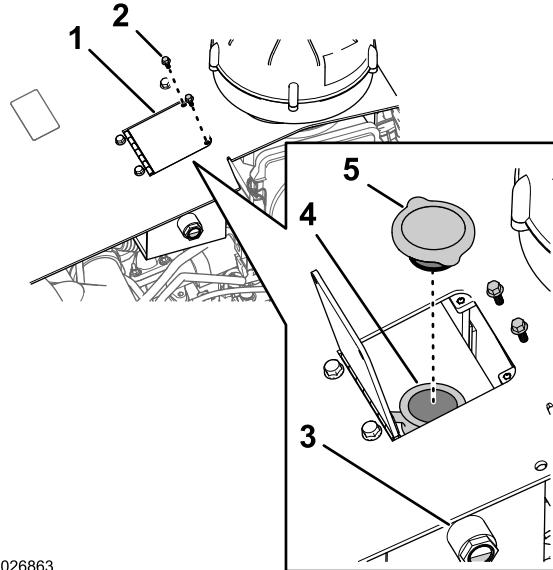
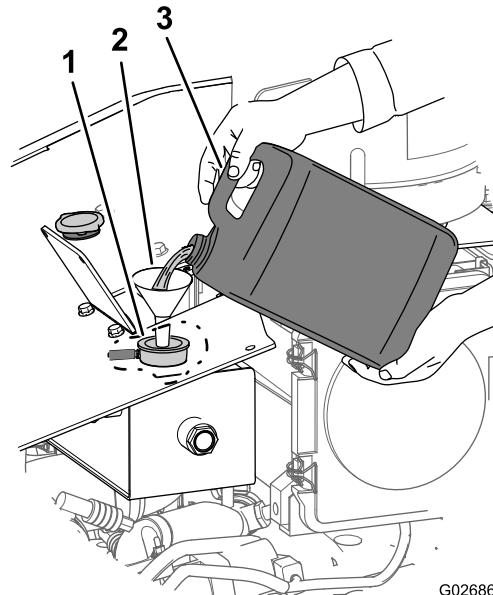

Figure 103
Figure 110
4. Check the coolant level by looking at the sight gauge in the side of the surge tank (Figure 103).
- A. Remove the 2 hex-head bolts that secure the reservoir door to the hood of the machine, and open the reservoir door (Figure 103).
- B. Remove the recovery-tank cap from the recovery tank, and add coolant until the level is up to the midpoint of the sight gauge (Figure 103).
2. Remove the 2 hex-head bolts that secure the reservoir door to the hood and open the door (Figure 103).
3. Remove the recovery-tank cap from the tank (Figure 103).
- 1. Remove the radiator cap from the recovery tank (Figure 103).
- 2. Fill the cooling system with the specified coolant mixture (Figure 110) until the fluid level is up to the midpoint in the sight gauge (Figure 103).
- 3. Install the recovery-tank cap (Figure 103).
- 7. Close the reservoir door and secure it to the hood with the 2 hex-head bolts (Figure 103) that you removed in step 2 of Draining the Coolant from the System (page 66).